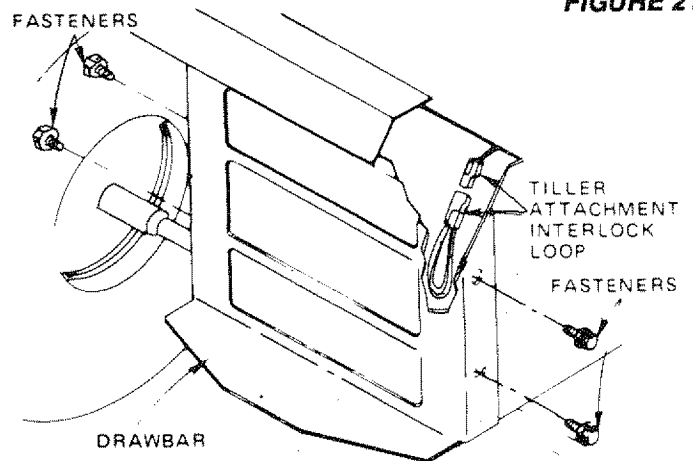

FIGURE 22
- Using a 9/16" wrench remove 4 fasteners to remove Drawbar (Fig. 22).
- Disconnect Tiller Attachment Interlock Loop (Fig. 22).